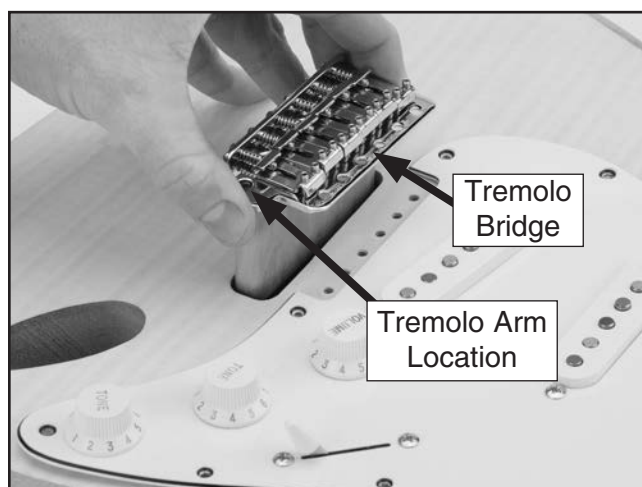

Figure 21. Tremolo bridge placement.
1. Place the tremolo bridge in the cut-out shown in **Figure 21**.
7. Turn the guitar face up and screw the tremolo arm into the socket indicated by the arrow in **Figure 21**.